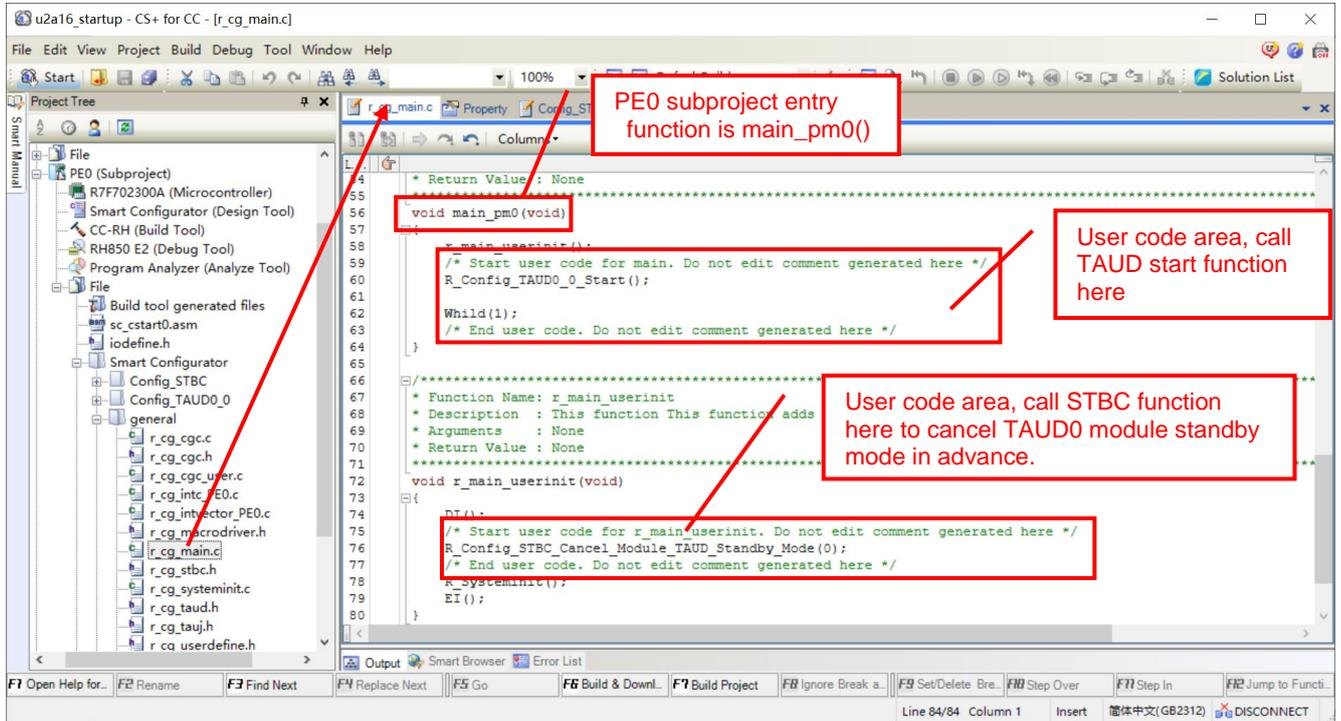

Figure 5-10. Add user code to main\_pm0() function
5. Operations in the Smart Configurator	5.3 Adding the Code to the User Code Area Update figure: Figure 5-9. Add user code to the user code area of interrupt routine Figure 5-10. Add user code to main_pm0() function